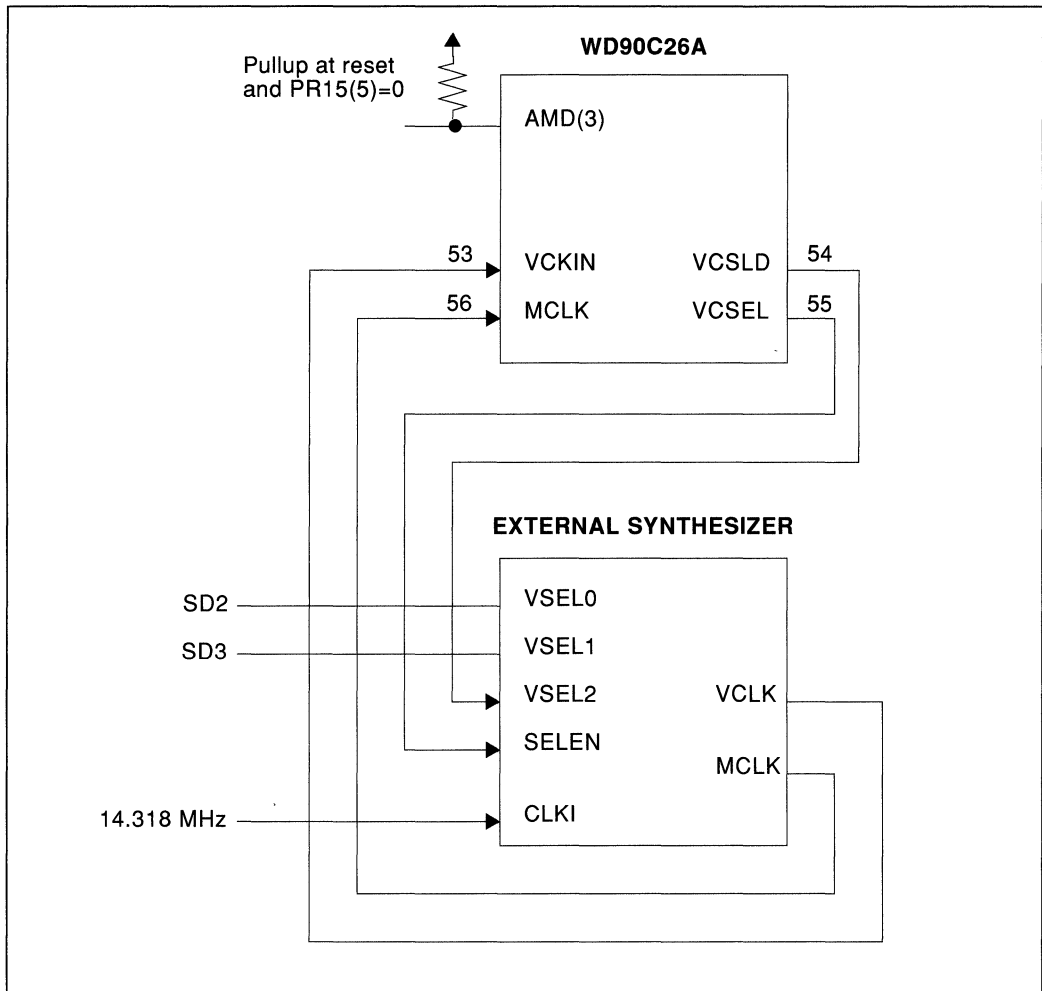

FIGURE 6-18 USING A WD90C26A WITH AN EXTERNAL SYNTHESIZER
- Using a WD90C26A with an External Synthesizer (see Figure 6-18).